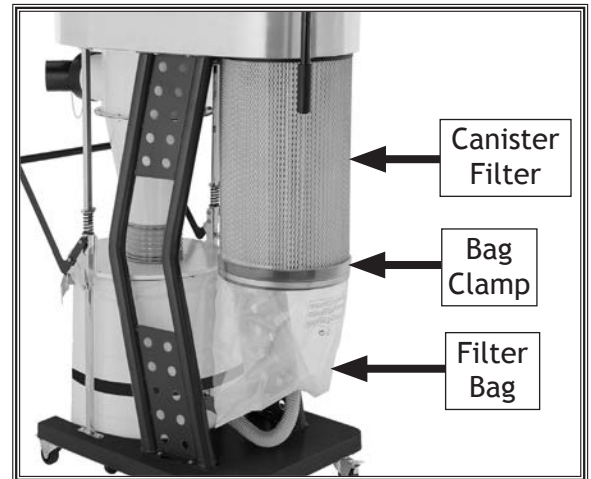

Figure 27. Filter bag attached to canister filter.
29. Attach plastic filter bag to canister filter and secure with bag clamp (see **Figure 27**).